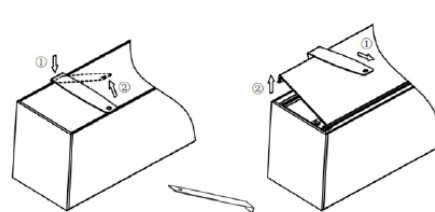

Fig. 1
1. Remove the lens with the tool provided and then remove the LED reflector strip. (Fig. 1, 2)